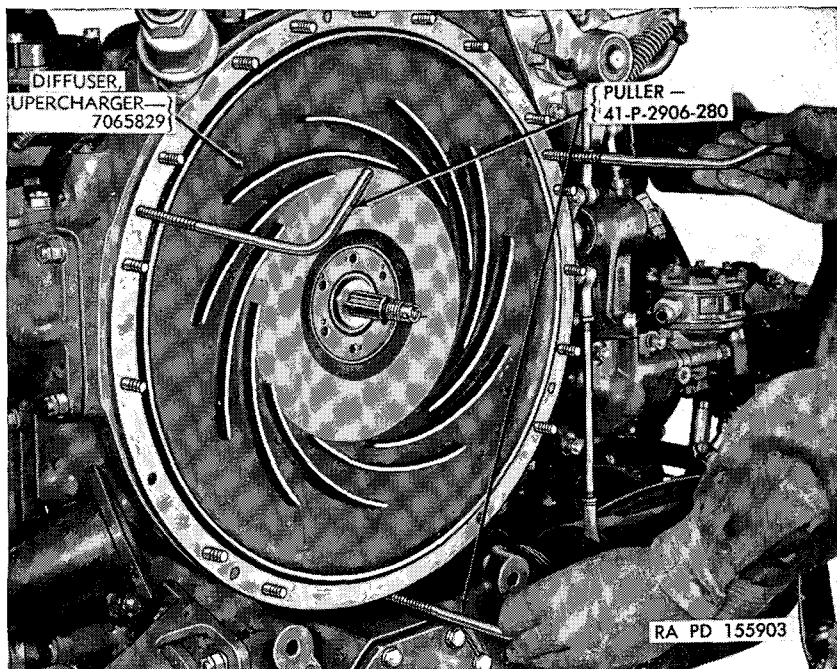

Figure 33. Removing supercharger diffuser.
- (4) Remove the six hex-head bolts (N) and tab washers (P, fig. 49). Remove the supercharger diffuser (Q, fig. 49), using puller 41-P-2906-280 (fig. 33). Discard the "O" ring gasket.